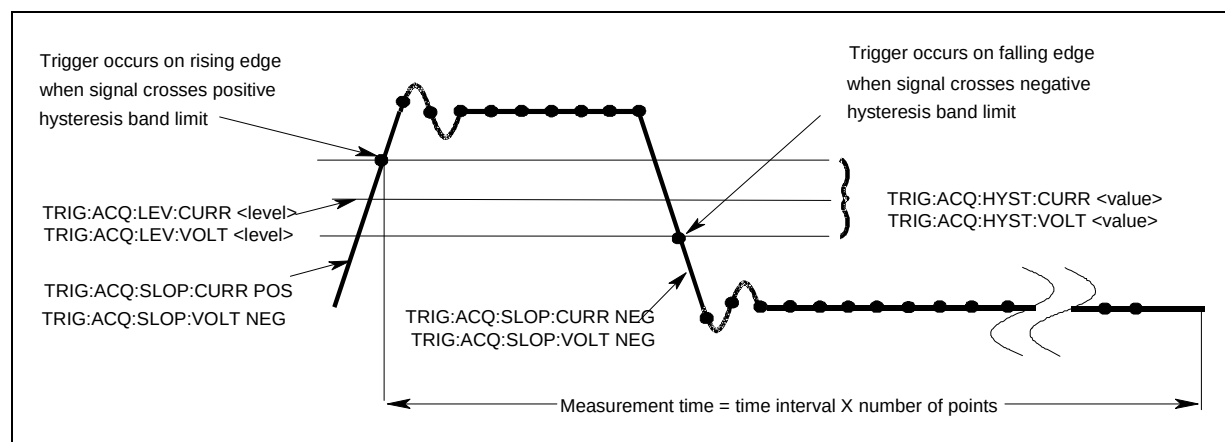

Figure 7-5. Commands Used to Control Internal Measurement Triggers
- Internal Triggers** To trigger off of the output signal, you must specify the output level that generates the trigger, the rising or falling edge of the slope, and a hysteresis to qualify trigger conditions. This is illustrated in figure 7-5 for current triggers.